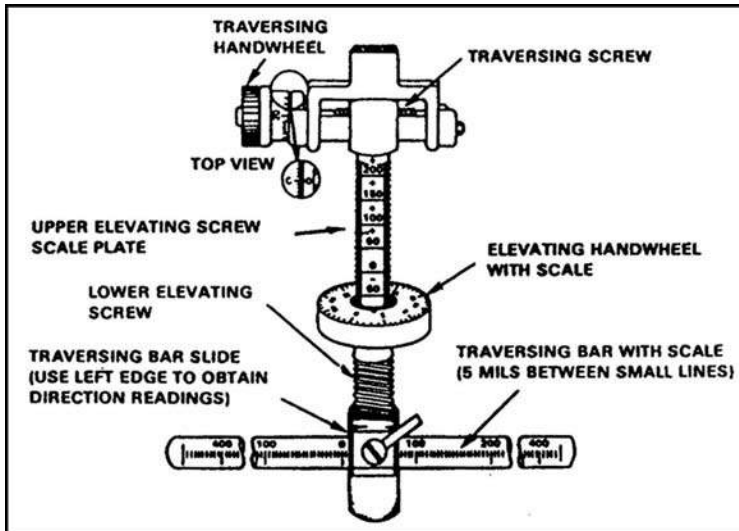

Figure 071-000-0005-4. Traversing and elevating mechanism
- (1) Label the range (in meters) from the gun to each target in the secondary sector.
- (2) Sketch aiming and elevation stakes between the gun position and the target as shown in figure 071-000-0005-2 and figure 071-000-0005-3.
5. Using the T&E mechanism, determine the direction, elevation, and range to each target. Write this information in the DATA SECTION of the range card as follows (figure 071-000-0005-2 and figure 071-000-0005-3):
- (1) Lay the gun on the base of the target.
- (2) Read the direction on the traversing bar at the left edge of the traversing bar slide (figure 071-000-0005-4).
- (3) Determine by the direction of the barrel whether the reading is right or left.
- (1) Lay the gun on the base of the target by rotating the elevating handwheel (figure 071-000-0005-4).
- (2) Read the number (including a "+" or "-" sign, unless the number is "0") above the first visible line on the elevating scale. (In figure 071-000-0005-4, this reading is "-50.")
(3) Read, from the elevating handwheel, the number in line with the indicator. (In figure 071-000-0005-4, this reading is "3.")
6. Record the data you found using the T&E mechanism (figure 071-000-0005-4).